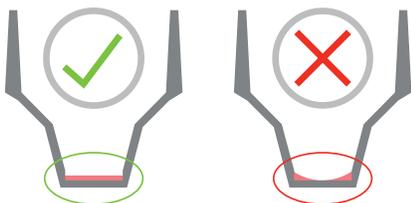

Figure 6. Minimum volume required is 20 μL .
- a. The minimum volume required to cover the well bottom and prevent exposure of cells to air is 20 μL (Figure 6). When removing media, ensure that the cells always remain covered. If the cells are exposed to air, gently dispense just enough media to cover the cell layer before discarding the remainder of the media.